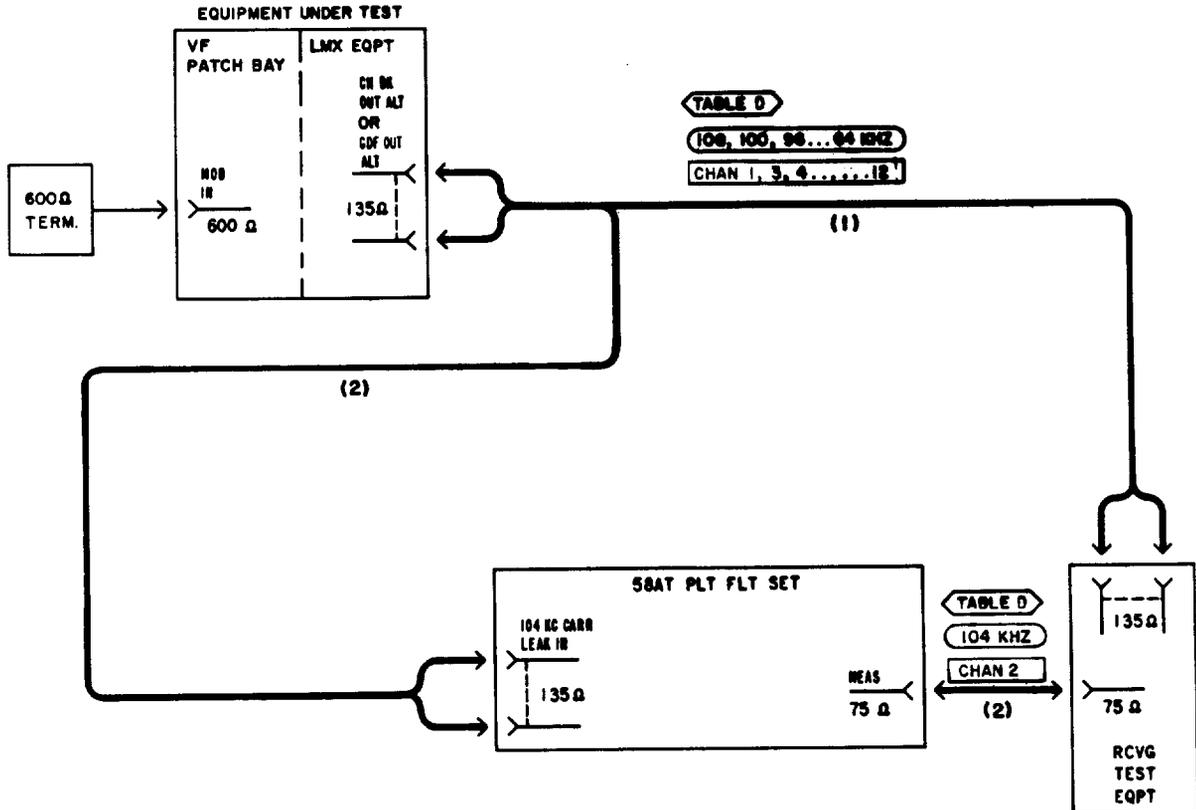

Fig. 3—Patching Diagram—Carrier Leak Test
2	Insert a 262B plug in the MOD IN jack for the channel under test (Fig. 3).
3	At the LMX equipment, connect the RTE to the CH BK OUT ALT (LMX-2) or GDF OUT ALT (LMX-3) jack [patch (1), Fig. 3].
8	At the LMX equipment, remove patch (1), Fig. 3.
9	At the LMX equipment, connect the RTE, via the 104 KC CARR LEAK IN/MEAS jacks on the 58AT pilot filter set, to the CH BK OUT ALT or GDF OUT ALT jack [patch (2), Fig. 3].
11	At the LMX equipment, remove patch (2), Fig. 3.